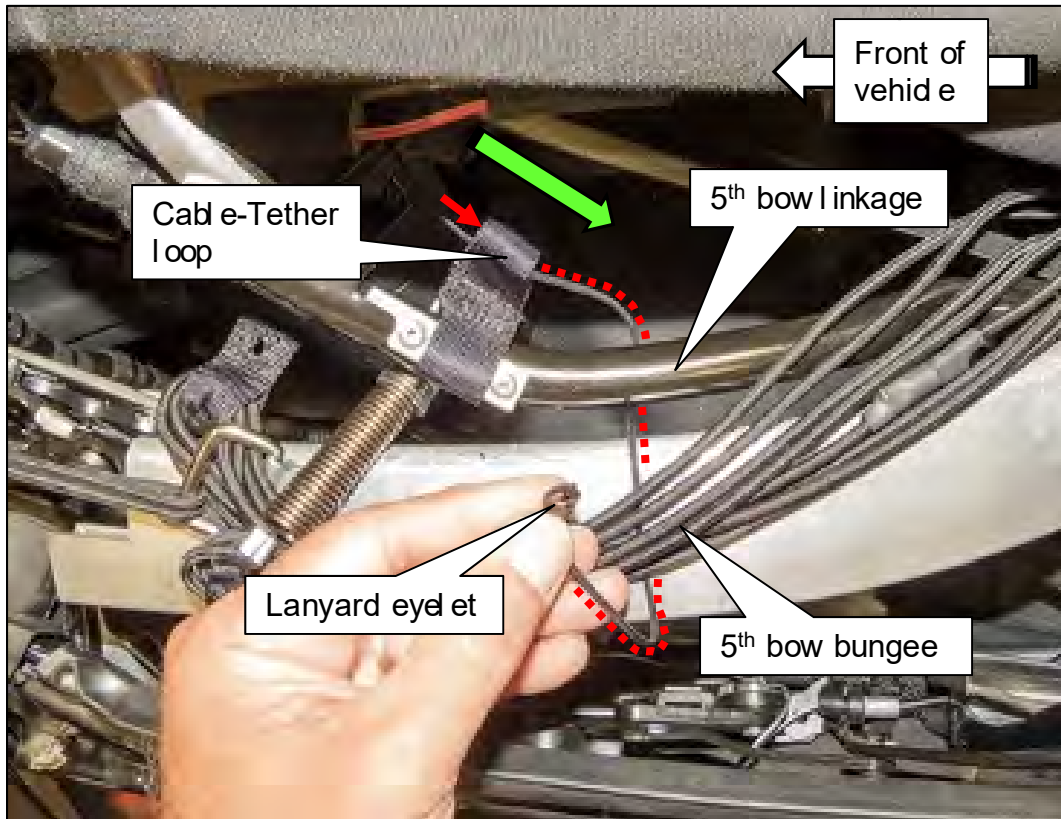

Figure 39
- 46. Thread the lanyard eyelet through the Cable-Tether Loop in the direction indicated in Figure 39.